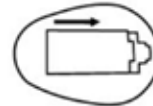

Figure3
3. Close the battery cover. (According to the figure 3)